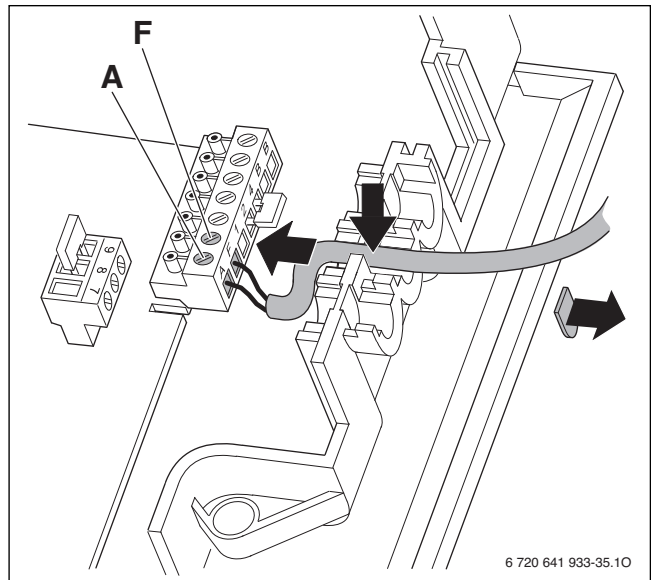

Fig. 43 Electrical wiring outdoor temperature sensor
- ▶ Connect cable of the outdoor temperature sensor according to Fig. 43.